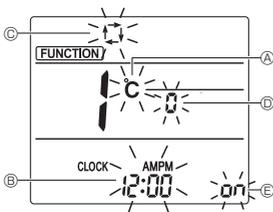

Fig. 3-2
- Press the **DOWN** button ④ to change the function No.
- Check that function No. "1" is displayed, and then press the **SET** button ③.
- The display setting screen will be displayed. (Fig. 3-2)
2) Changing the temperature unit ① (Fig. 3-2)
3) Changing the time display ⑦ (Fig. 3-2)
4) Changing the AUTO mode ③ (Fig. 3-2)
5) Changing the pair No. ④ (Fig. 3-2)
- Each time the **DOWN** button ④ is pressed, the pair No. 0-3 changes.
6) Changing the backlight setting ⑺ (Fig. 3-2)